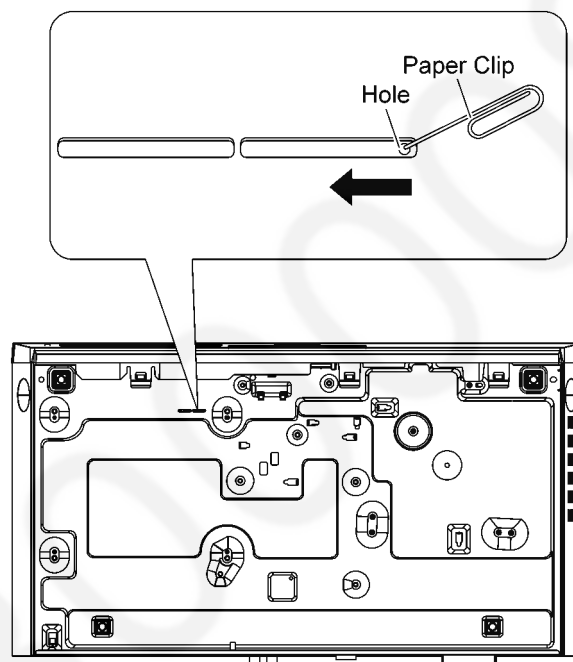

Figure 8-1
2. Insert Paper Clip into the hole on the bottom of unit and slide the Paper Clip on the direction of the arrow to eject tray slightly. The tray will open automatically. (Refer to Figure 8-1)